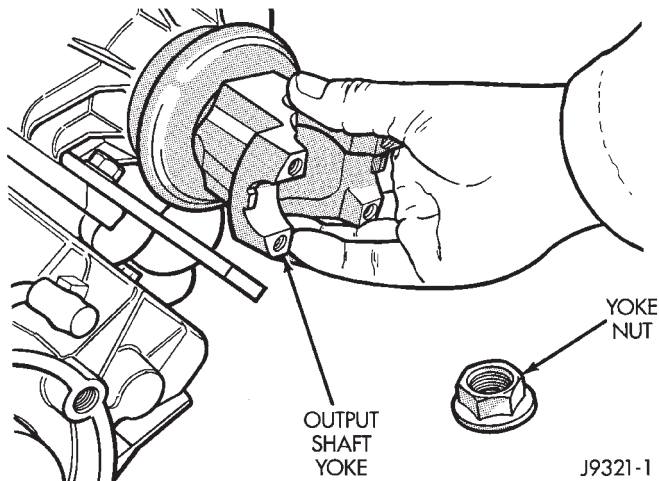

Fig. 1 Removing Front Output Shaft Yoke
(1) Position transfer case on shallow drain pan. Remove drain plug and drain lubricant.
(2) Remove front yoke nut and remove yoke (Fig. 1).